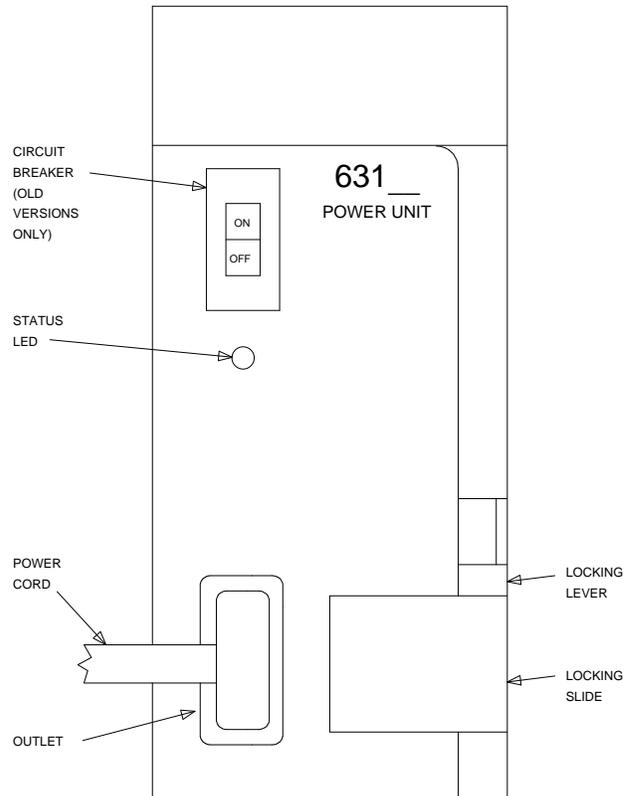

Figure 7-40. 631-Type Power Unit
19. Connect the power cords to the power units. The power cords are the white cables equipped with plugs that are run through the slots in the front of each carrier (see Figure 7-40 on page 7-91).